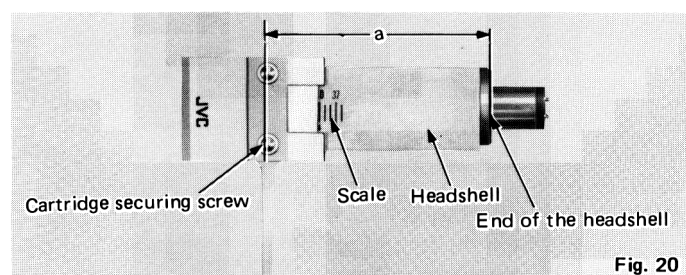

Fig. 20
- The scale indicates the distance (a) from the end of the headshell to the cartridge securing screw in mm. (See Fig. 20)